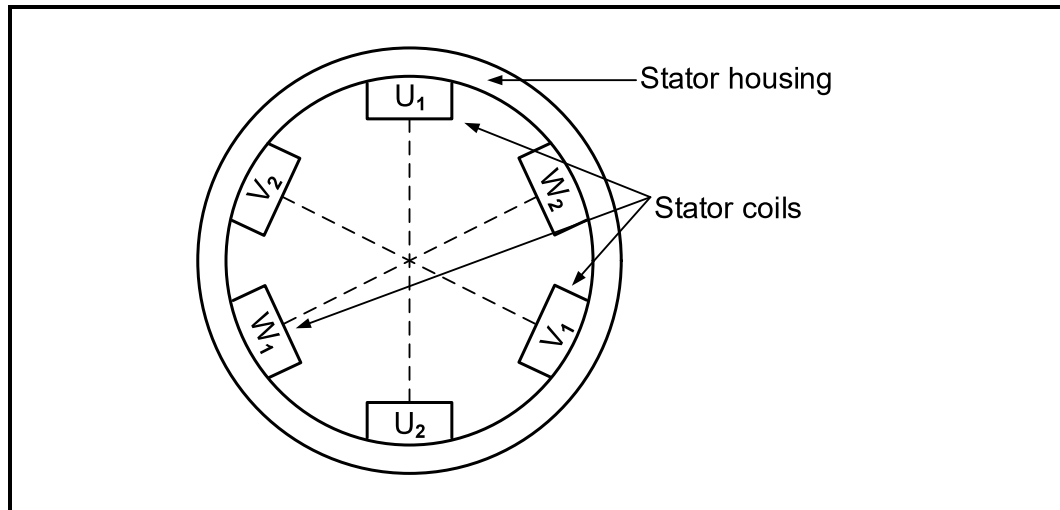

FIGURE 6.2: THREE-PHASE STATOR
6.2 FIGURE 6.2 below shows how the coils of a three-phase induction motor are placed in a stator. Answer the questions that follow.